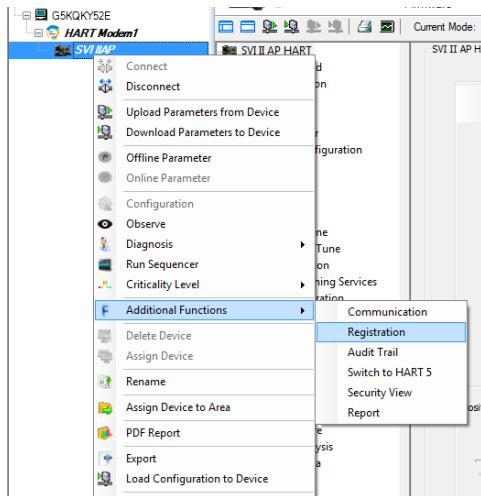
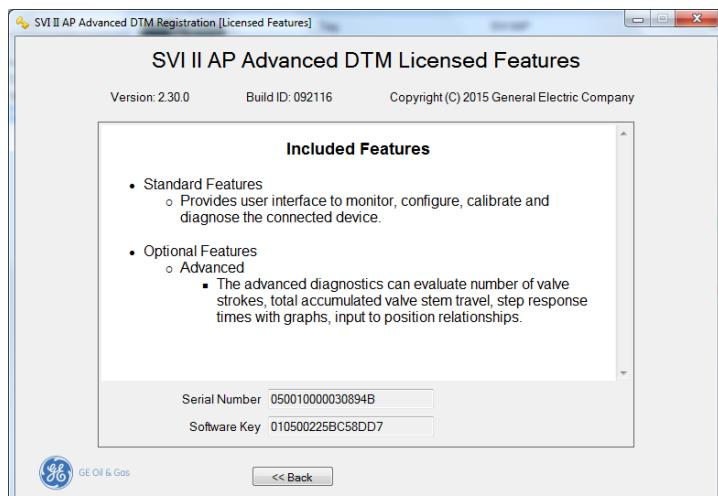

Figure 79 Select Registration
Figure 80 Licensed Features
- Right-click on the positioner in the topology pane and select **Additional Functions > Registration** (Figure 79) and Figure 80 appears with *Advanced* listed, if applicable.